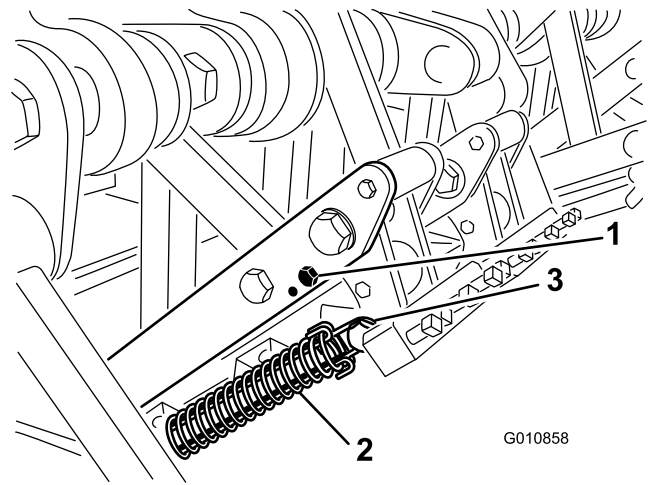

Figure 28
3. Release the spring tension to the tine head (Figure 28).
4. Remove the bumper bolt and bumper from the linkage arm and reinsert them into the other adjustment hole (Figure 28).